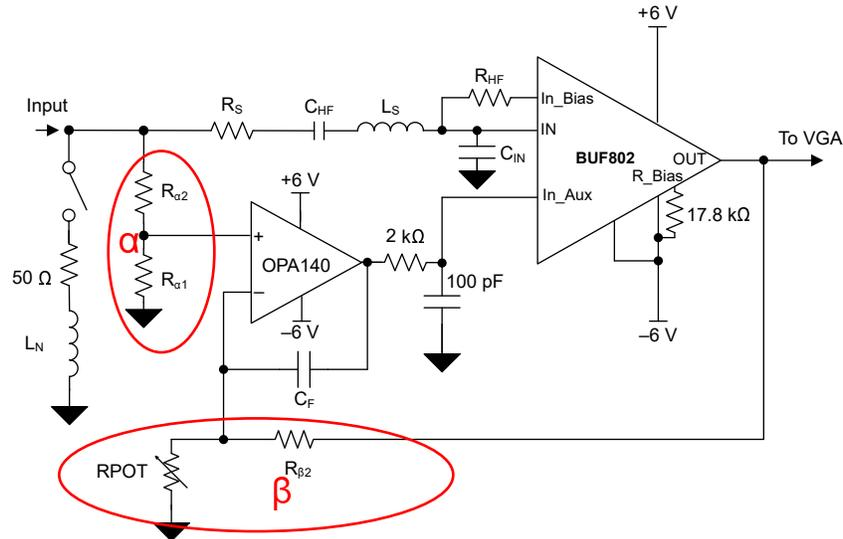

Figure 7. α and β Resistor Network
1. $\alpha/\beta = G$ (where $\alpha = R_{\alpha 2} / (R_{\alpha 2} + R_{\alpha 1})$, $1/\beta = 1 + (R_{\beta 2}/ RPOT)$ as shown in Figure 7 and $G =$ DC Gain of BUF802)